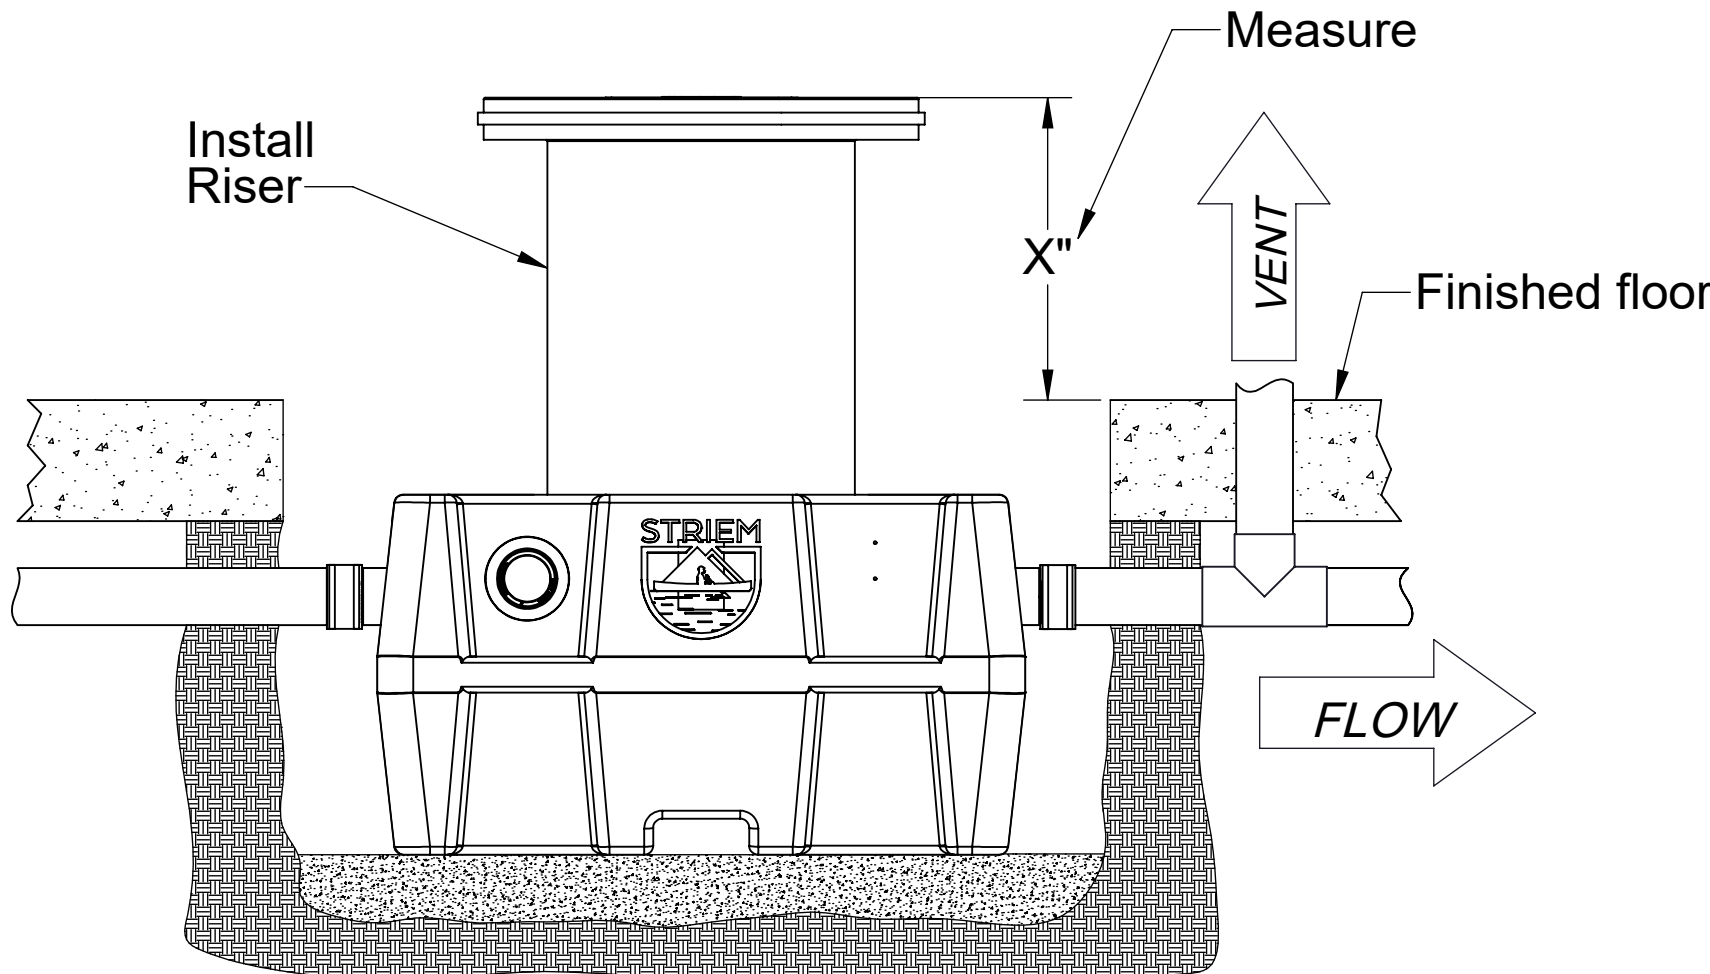

Figure 2
- Push riser into ring until it stops (about 1 inch). See Figure 2.
- Measure the distance from the top edge of the riser down to the finished floor. Make sure to account for any future tile work in your measurement. See Figure 2.